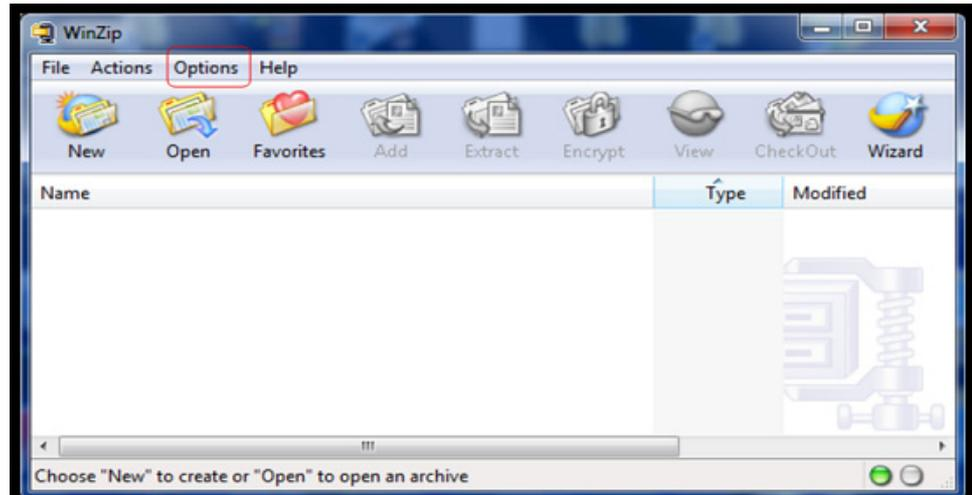

Figure 95 Selecting Options
2. Select **Options**, as shown in Figure 95 on page 85.